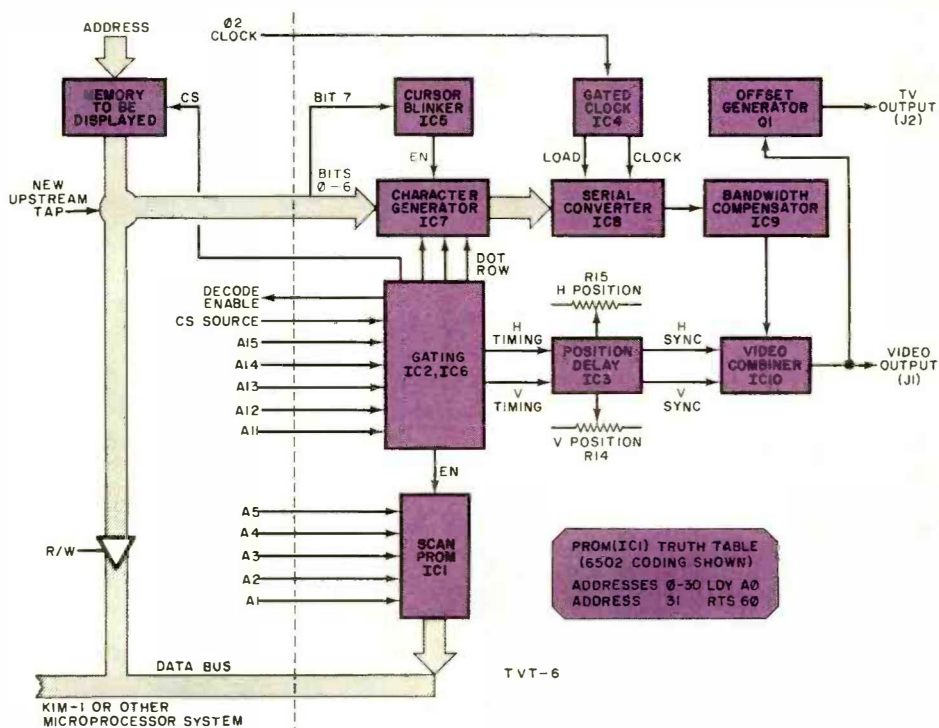
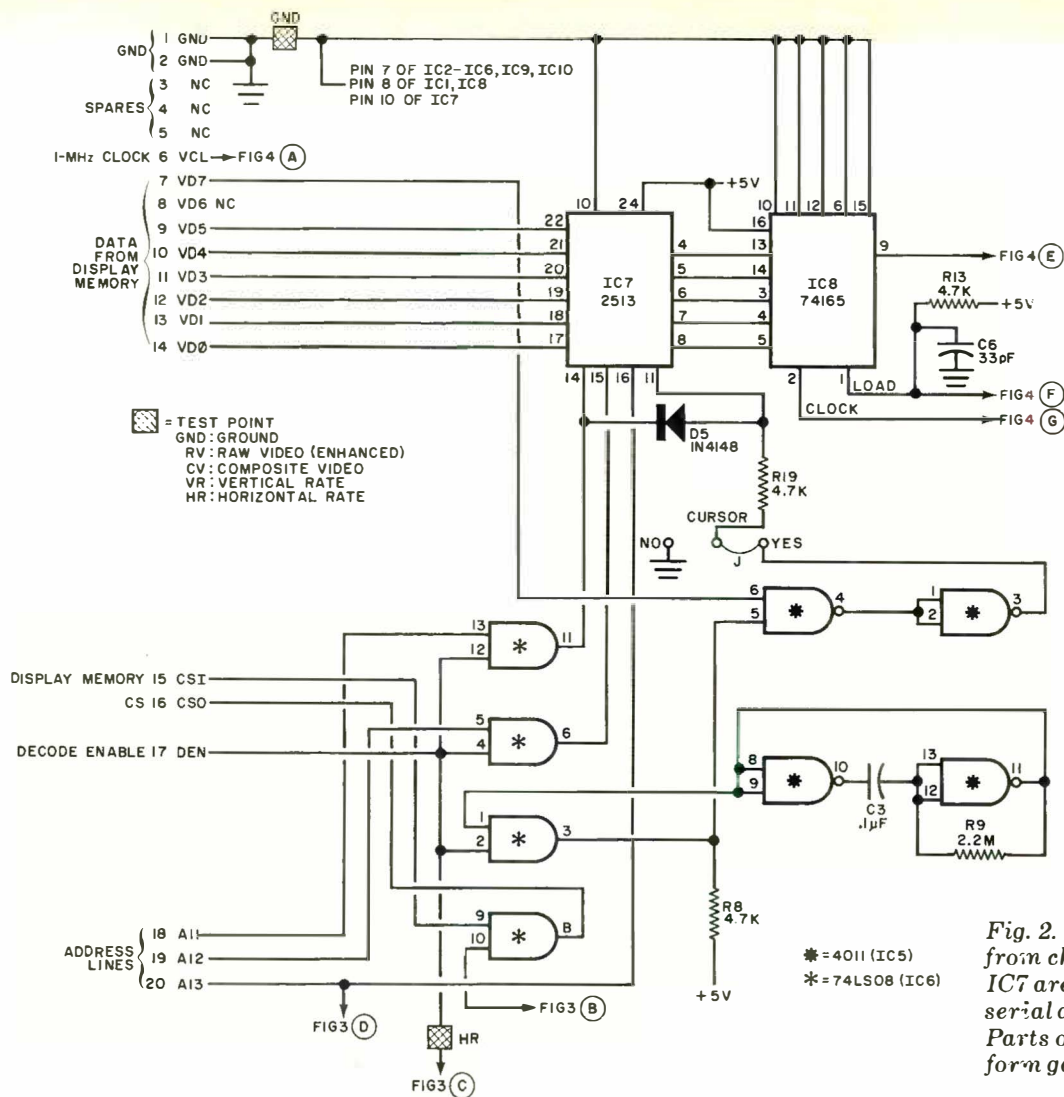

Fig. 1. TVT-6 block diagram and truth table for the PROM.
Fig. 2. Parallel outputs from character generator IC7 are converted into serial data in IC8. Parts of IC5 and IC6 form gating circuits.
**Circuit Operation.** A block diagram of the TVT-6, as used with the KIM-1 system, is shown in Fig. 1. The complete schematic diagram of the video system is shown in Figs. 2 through 4.
As shown in Fig. 1, bits 0 through 6 from the "upstream tap" on the KIM display memory drive character generator IC7 whose blanking and formatting are helped along by the AND gates in IC6. The cursor bit (bit 7) is stripped off the upstream tap and routed to cursor blinker IC5, which introduces a blinking cursor into the character generator's enable input.
The truth table for PROM IC1 is shown in Fig. 1. This truth table stores the SCAN instruction, activated by addresses 8000 through DFFF. When IC1 is enabled, it causes the microprocessor's program counter to appear on the address lines for 32 or 64 consecutive scans that advance one count per microsecond. This automatically and sequentially addresses the display memory and produces exactly the data needed for a horizontal scan of TVT characters. The scan instruction runs at least twice as fast as the microprocessor normally moves, which is the key to TVT timing with a microprocessor.